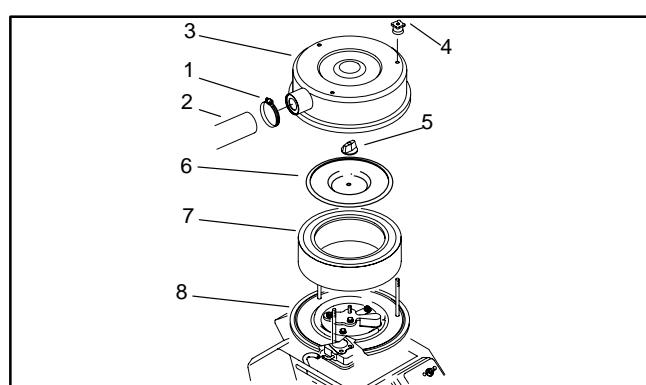

Figure 14
- Remove air hose from air cleaner cover. Remove air cleaner cover. Remove cover plate and air cleaner element from the air cleaner base (Fig. 14).
- Install air cleaner element and cover plate to the air cleaner base. Secure air cleaner cover to air cleaner. Secure air hose to air cleaner cover. (Fig. 14).